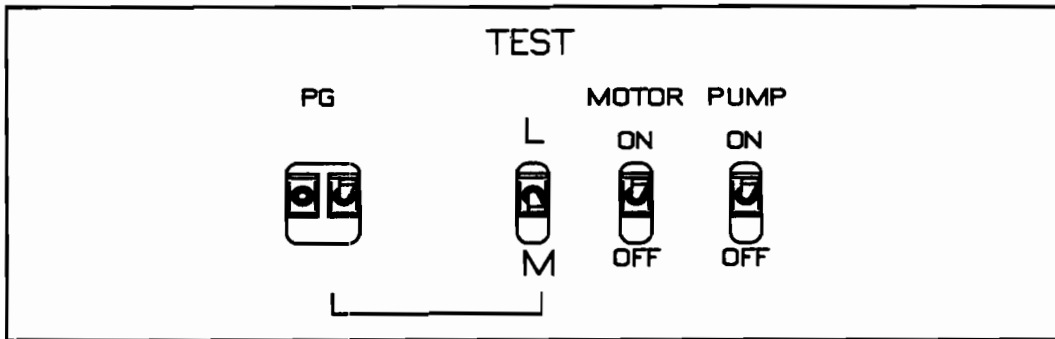

Figure 4-3. Array of Test Switches
3. Open the plotter's right door. Inside, you will see an array of test switches. See Figure 4-3.